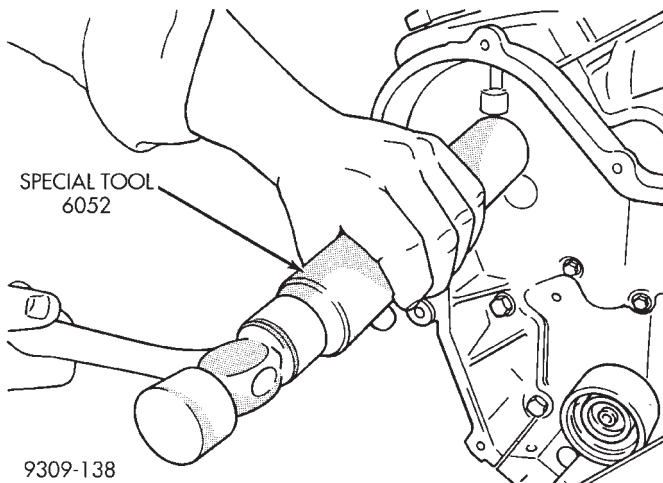

Fig. 14 Install Camshaft Oil Seal
(1) Apply light coat of engine oil to the camshaft oil seal lip.
(2) Install the oil seal using Special Tool 6052 (Fig. 14).